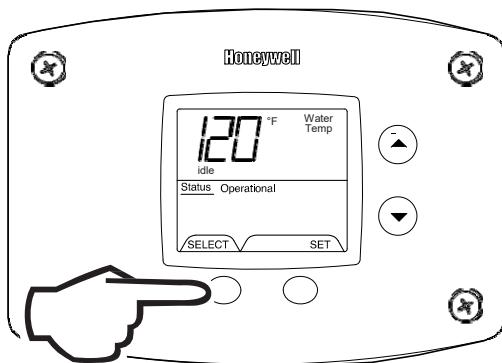

Fig. 56
- In Service Mode, Press the 'Select' button until 'Water Temp' is displayed in the upper right section of the water heater display. For water heaters using two temperature sensors in the tank, this will be the average reading between the two sensors. For water heaters using a single sensor, this is the reading for the sensor (Fig. 56).